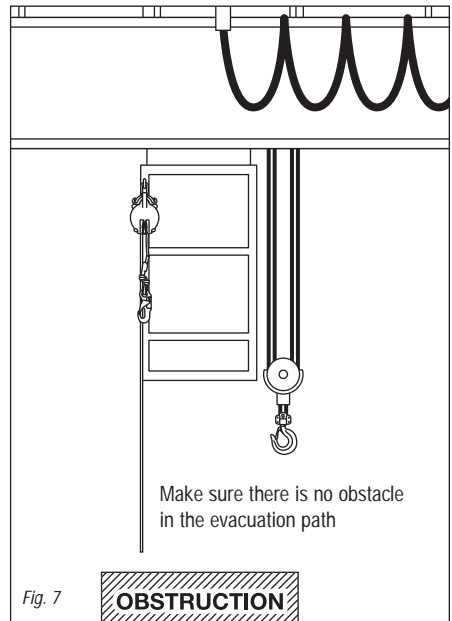

Fig. 7
- 3.2.1 Every anchorage point must be selected with care. Make sure that there are no obstacles in the evacuation path and on the landing zone. Maintain a safe distance from any obstruction to ensure a safe descent (e.g. electric wires, glass, concrete reinforcing bars) (Figure 7).